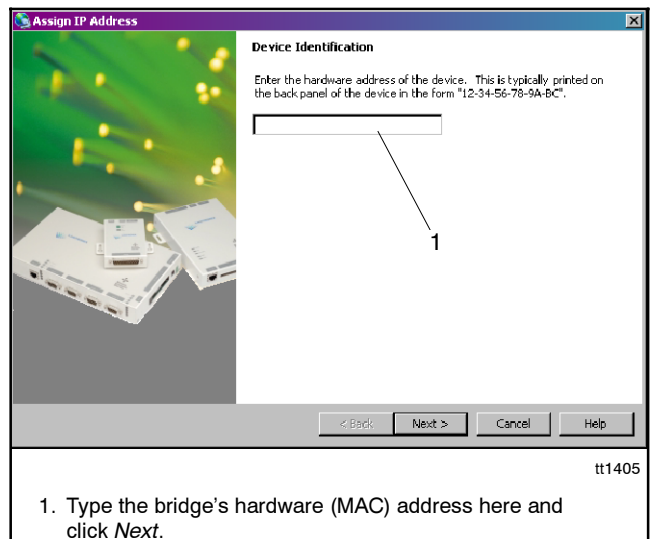

Figure 32 Enter Hardware (MAC) Address
- c. Enter the bridge's hardware address (MAC address) in the first *Assign IP Address* window. See Figure 32. The MAC address is printed on the bridge's label. See Figure 7. Include dashes between each pair of characters. The letters are not case-sensitive. Example: 00-20-3A-44-F5-6C.